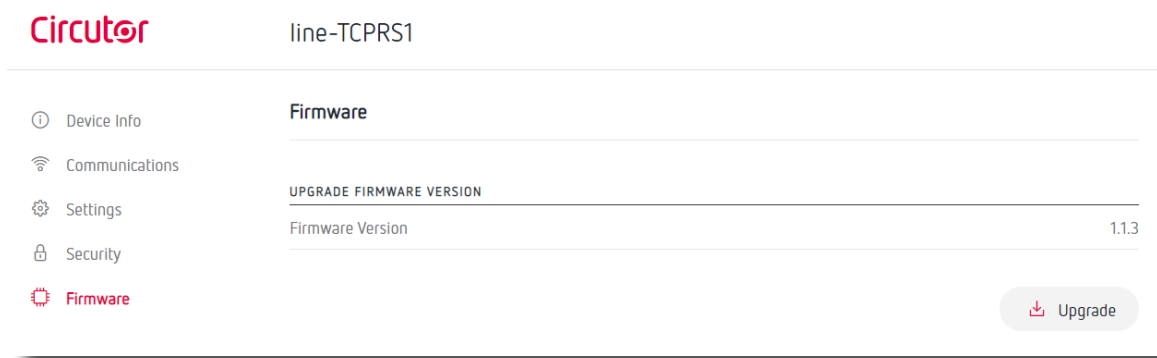

Figure 11: Website: Firmware.
- ✓ On the **Firmware** screen, update the device's firmware (Figure 11).